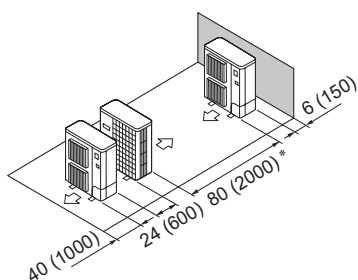

Fig. 2-15
- ⑤ Single parallel unit arrangement (Fig. 2-15)